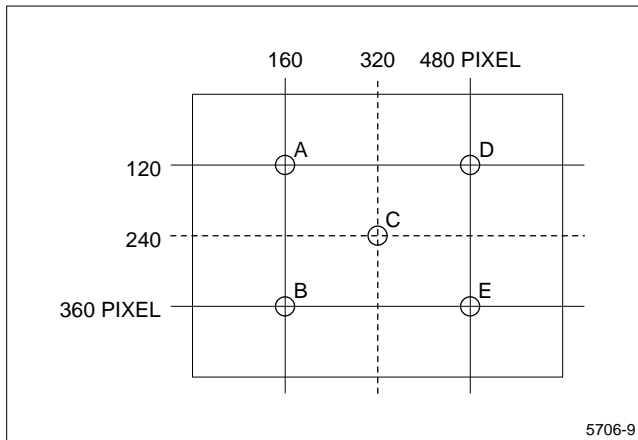

Figure 7. Definition of White Uniformity
6. White Uniformity is defined as the following with five measurements (A-E) (Refer to Figure 7): $\frac{\text{Maximum Luminance(brightness)}}{\text{Minimum Luminance(brightness)}}$